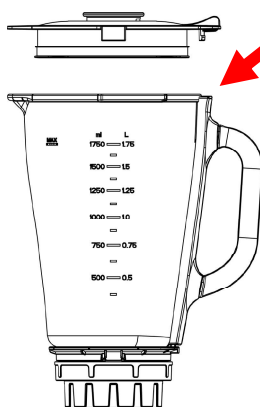

Fig.6
2. Place the food to be blended into the jar (See Fig.6). Usually, certain amount of purified water has to be added to facilitate the smooth running of appliance. The amount of mixture should not exceed the max level as indicated on the jar.